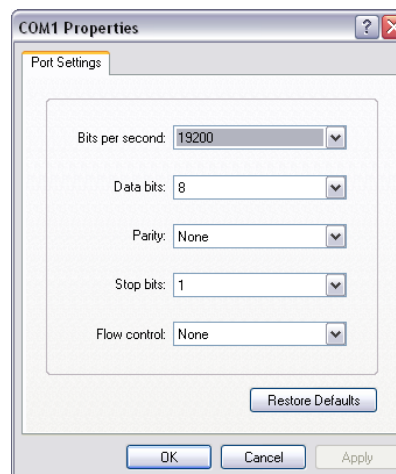

Figure 3-4, COM1 Properties
9. When the COM1 Properties screen appears, click on each drop-down menu to change the settings as follows: 19200 Bits Per Second, 8 Data Bits, no Parity, 1 Stop Bit, no Flow Control. (Figure 3-4)